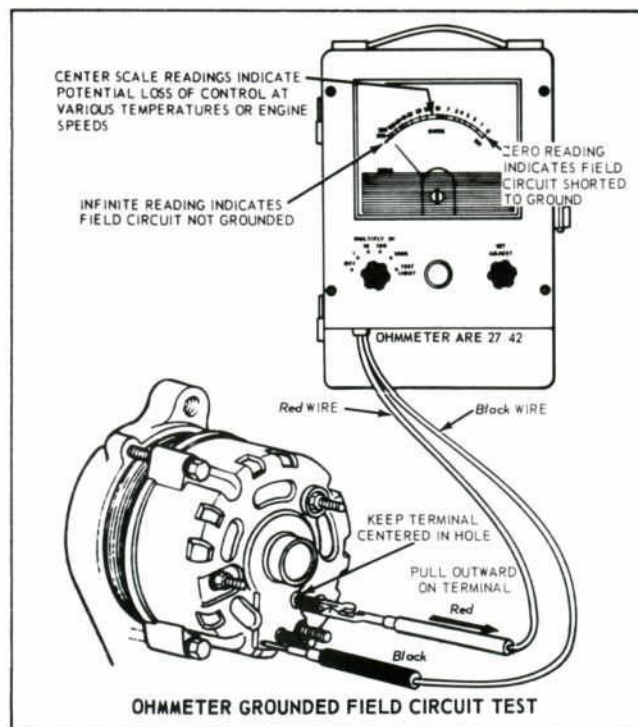

Figure 7—Ohmmeter Field Circuit Tests
- Connect the leads of an ohmmeter, such as the Rotunda ARE 27-42, as shown in Fig. 7, Ohmmeter Field Circuit Tests. Set the ohmmeter multiply-by knob at 1, and calibrate the ohmmeter as indicated inside the ohmmeter cover.
- Three conditions are checked in these tests as shown in Fig. 7: A grounded field; a shorted field and an open field.